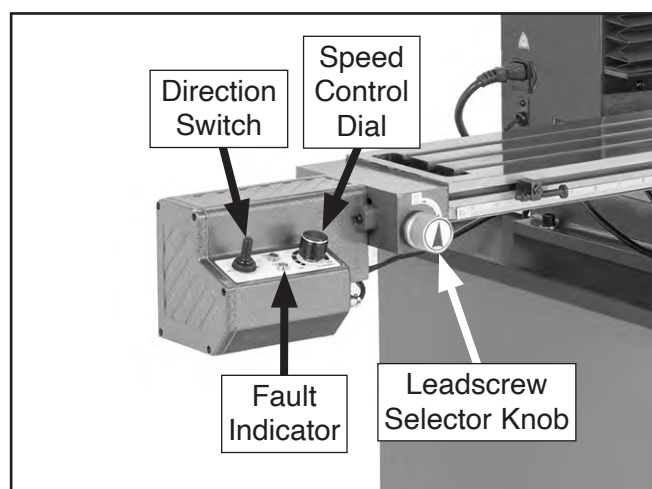

Figure 25. Left X-axis power feed components.
18. Turn power feed speed control dial (see **Figure 25**) all the way counterclockwise to prevent high-speed startup.
19. Move direction switch (see **Figure 25**) to neutral (middle) position.
20. Turn leadscrew selector knob (see **Figure 25**) counterclockwise to disengage power feed drive gear.
25. Watch for table limit stop to engage limit switch (see **Figure 26**). When it engages, fault indicator light should illuminate (see **Figure 25**) and motor should stop. If power feed *does not* stop, turn speed control dial all the way counterclockwise and move direction switch to middle (OFF) position.